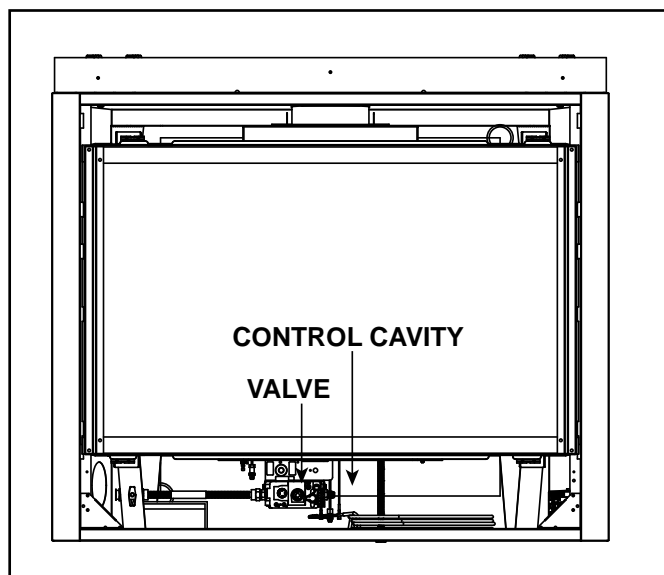

Figure 3.5 Control Cavity - Generic Appliance Shown
The QUARTZ models have a variable burn rate which is controlled by the HI/LO knob on the gas valve. Therefore the flame height is adjustable. The HI/LO knob is shown in Figure 3.5. It is located in the control cavity of the appliance. The HI/LO knob may be adjusted as desired by turning counterclockwise to the HIGH position and by turning clockwise to the LO position.
The IntelliFire intermittent pilot ignition system comes with a battery backup system that enables the system to operate in a power outage. A factory-installed battery pack is located in the control cavity of the appliance. See Figure 3.5. Batteries should not be placed in the battery tray while using electrical power to operate the fireplace. Remove batteries from battery tray when power has been restored.
1. Access the control cavity of the appliance. See Figure 3.5 for location. The decorative front may need to be removed.
2. Locate the battery tray and insert two D cell batteries. Battery polarity must be correct or module damage will occur. See Figure 3.5. A complete wiring diagram is included in the Electrical section of the appliance Installation Manual.